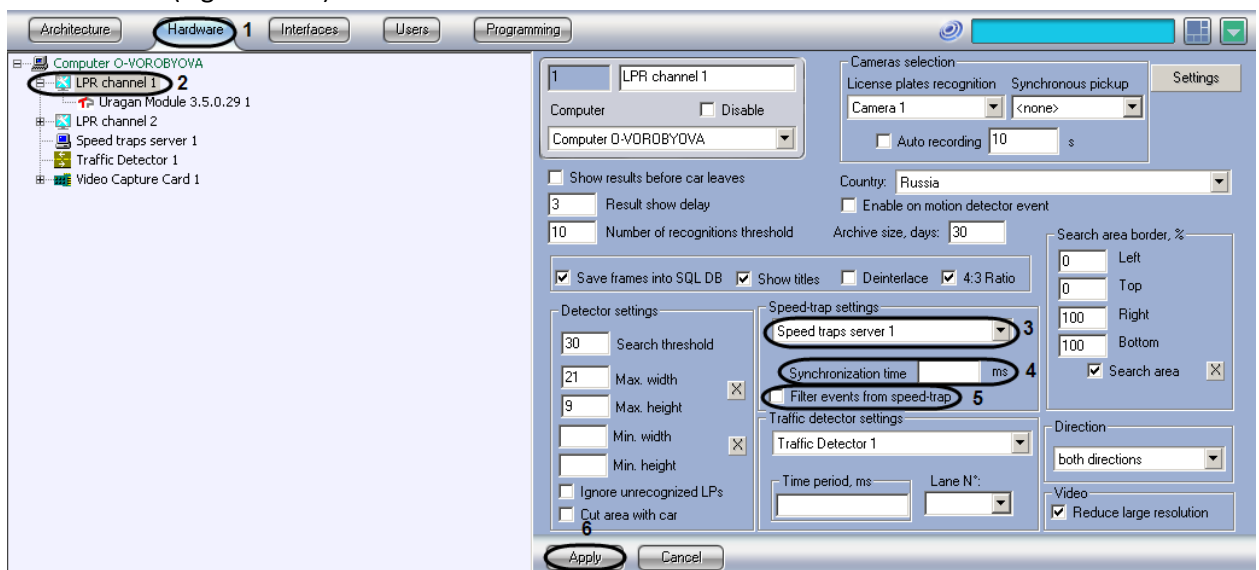

Fig. 7.2—20 Setting up the Joint operation of LPR channel and Radar modules
2. In the object tree on the left side of the Hardware tab, select the LPR channel, corresponding to the activated Auto-Uragan 3.5.0.29, CARMEN-parking or CARMEN-Auto program module in the objects tree on the Hardware tab (see. «Program module activation, used for Plates identification»). The settings panel of the selected object will open on the right side of the window (Fig. 7.2—20).